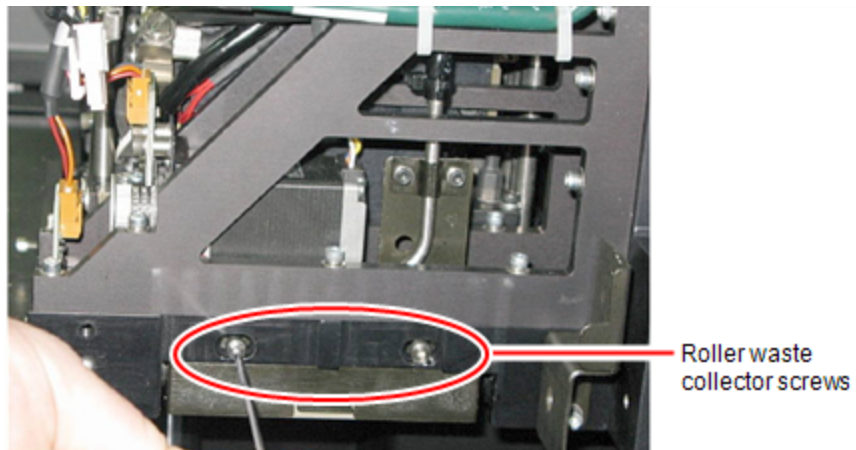

Figure 4-77 Removing the roller waste collector screws
- Return the roller waste collector to the print block and screw on the covering (see Figure 4-77 on the previous page).